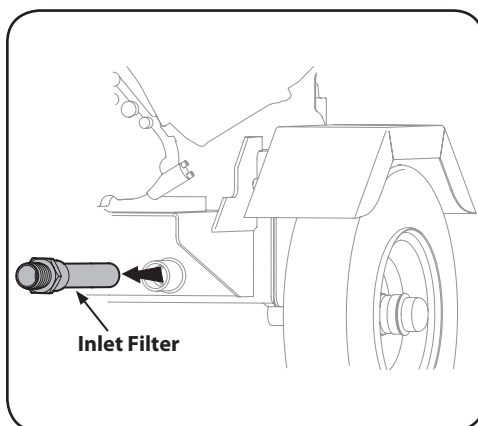

Figure 5-3
4. Carefully un-thread the inlet filter and clean it with penetrating oil. See Figure 5-3.